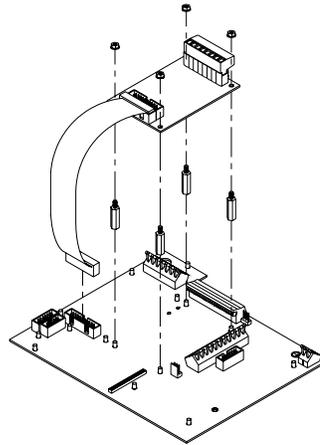

Figure 6: Model 562 Setpoint Installation
2. Install the 4 M3 Male-Female aluminum standoffs on the 4 short studs protruding through the main board using a 6mm socket or wrench. See Figure 6.